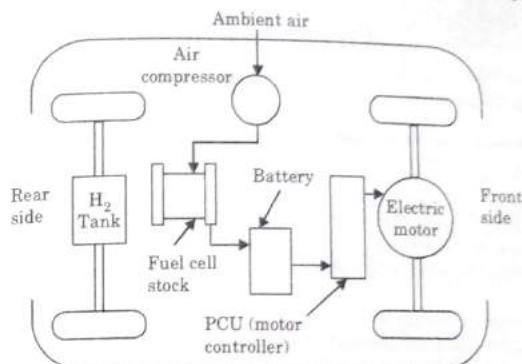

Fig. 3.26.1. Components of fuel cell vehicle.
1. The fuel cell vehicle shown in Fig. 3.26.1, is ecofriendly compared with conventional vehicle.